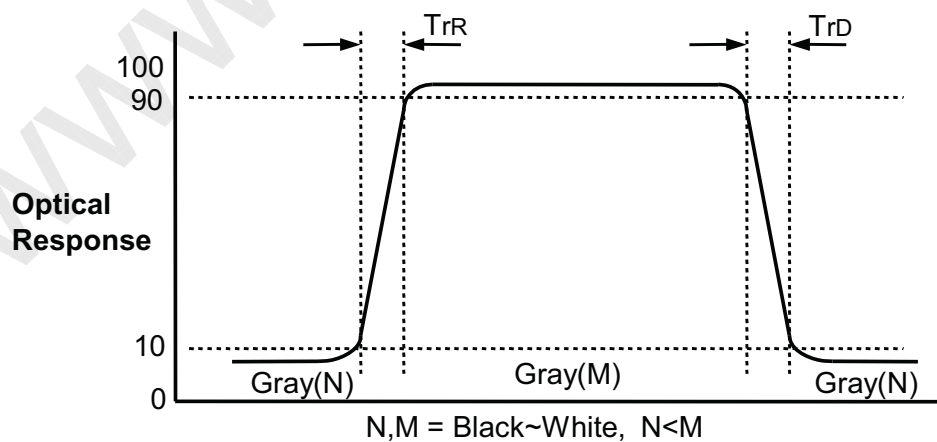

FIG. 10 Response Time
4. Response time is the time required for the display to transit from G(N) to G(M) (Rise Time,  $Tr_R$ ) and from G(M) to G(N) (Decay Time,  $Tr_D$ ). For additional information see the FIG. 10. ( $N < M$ )